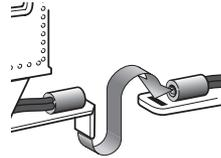

Figure 1. Drawbar connection
2. Place your locomotive on Lionel or Lionel-compatible 0-54 or larger track and connect the drawbar between the locomotive and tender as illustrated in Figure 1.
3. Power your locomotive at 12-18 volts with your alternating current (AC) transformer.